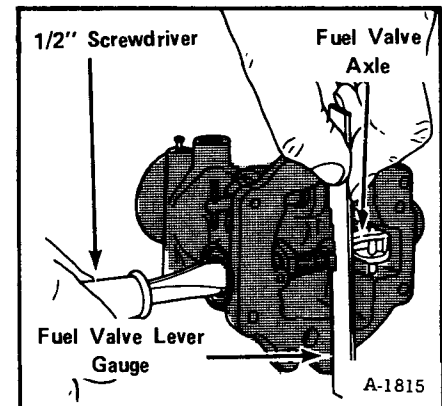
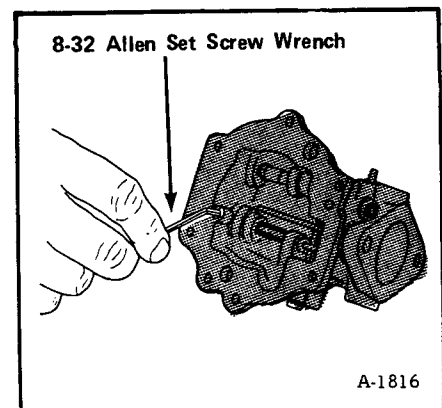

Fig. 127 Adjusting Fuel Valve Lever
Fig. 128 Securing Fuel Valve Lever
(8) Place the special fuel valve lever adjusting gauge on the machined surface of the casting and against the nylon roller (Fig. 127). Adjust the fuel valve lever to step 2 on the gauge by turning the inlet orifice in or out. Secure it in position by tightening the 8-32 set screw (Fig. 128).